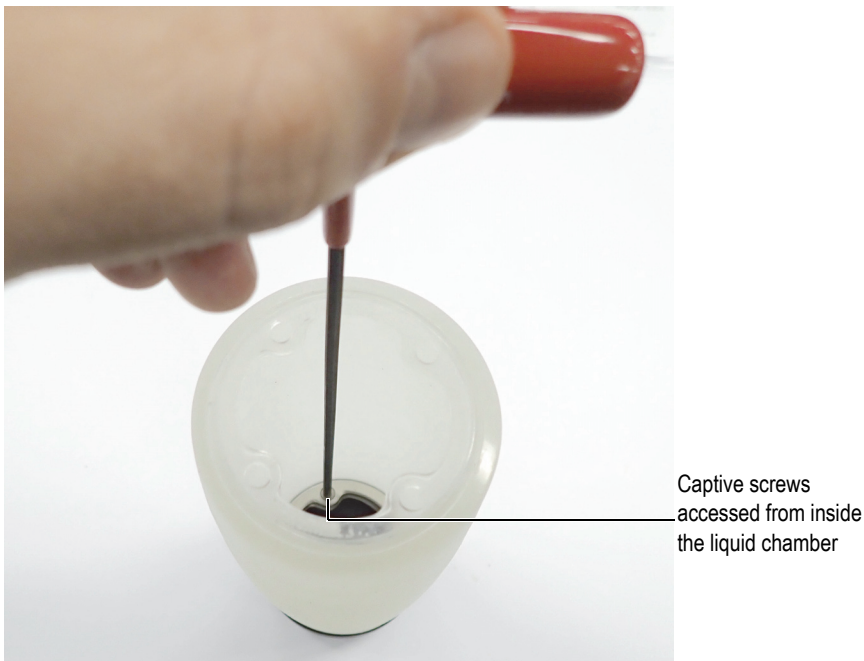

Figure 6-27 Tightening the captive screws of the flange that contains the liquid-control valves from inside the liquid chamber
- b)* Inside the liquid chamber, using a cross pattern, tighten the four captive screws on the stainless steel ring, first lightly, and then tightly (Figure 6-27 on page 106).